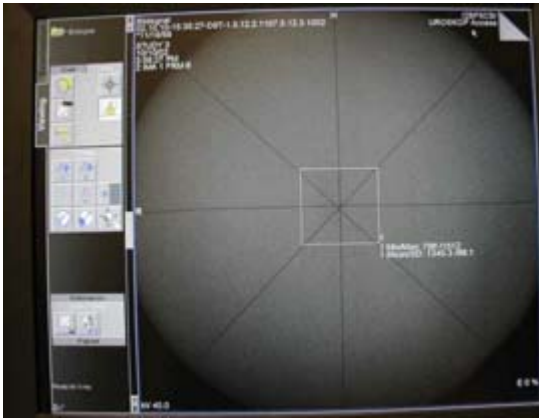

Fig. 20: B/W pixel
- Evaluate the FL image in the viewer as follows (Fig. 20 / p. 30):